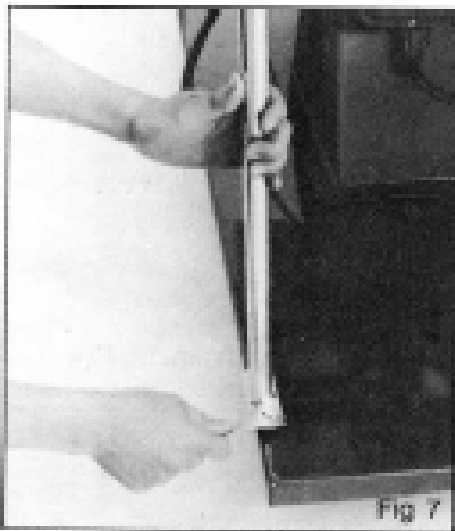

Fig 7
Now install the two collector supports (H) and the two support inserts (G) as shown in fig 7 and fig 8.